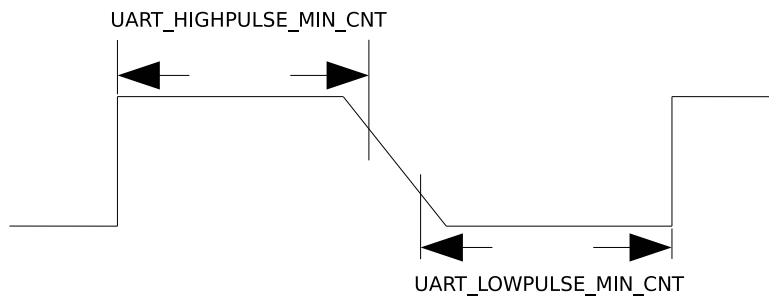

Figure 13-4. The Timing Diagram of Weak UART Signals Along Falling Edges
2. If UART signals are weak along falling edges as shown in Figure 13-4, which leads to inaccurate average of `UART_LOWPULSE_MIN_CNT` and `UART_HIGHPULSE_MIN_CNT`, use `UART_POSEDGE_MIN_CNT` to determine the transmitter's baud rate as follows: